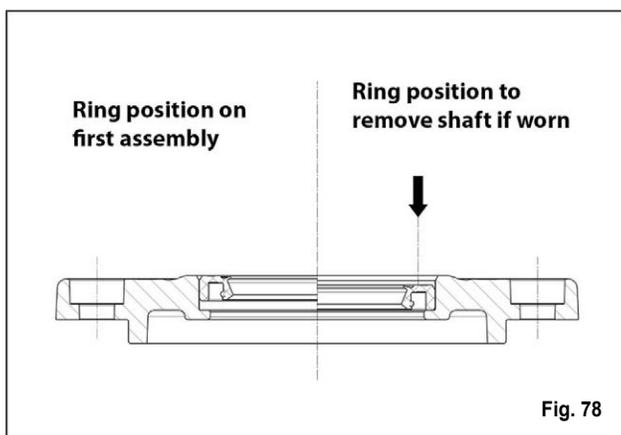

Fig. 78
Before proceeding with seal ring assembly, check lip seal conditions. Replace if necessary, position the new ring on the bottom of the groove as indicated in Fig. 78.
**If the shaft should present a diameter wear corresponding to the lip seal, to prevent grinding, position the ring in the second stroke as indicated in Fig. 78.**